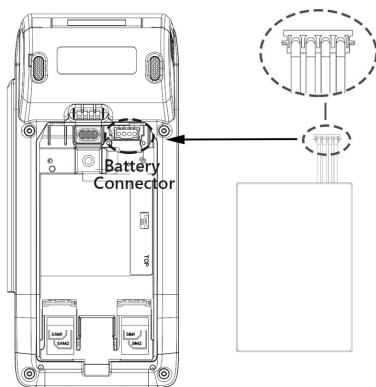

Figure 10
- STEP 1: Insert the battery connector into AT100 with correct direction as Figure 10.